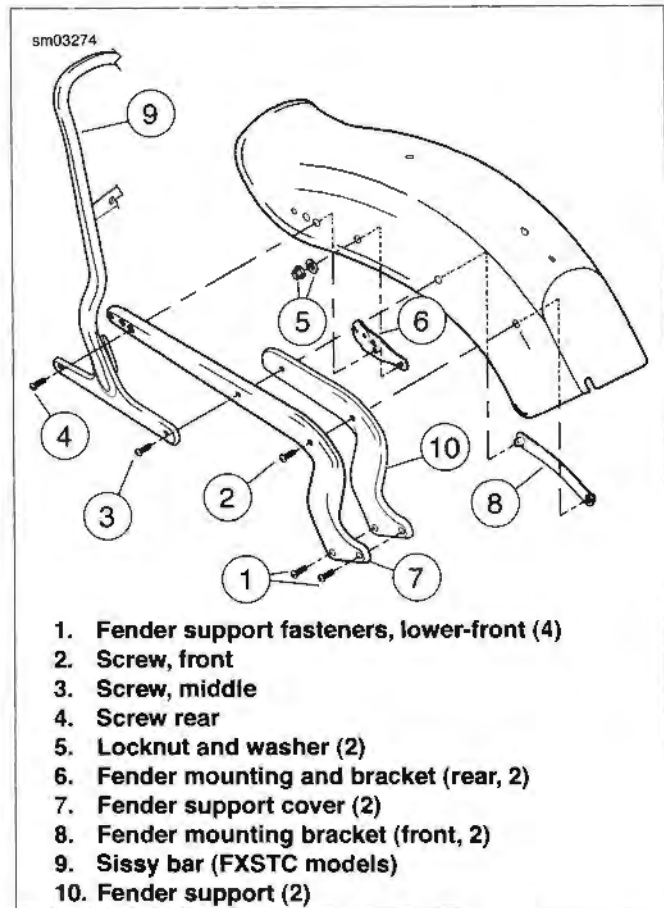

Figure 2-112. Rear Fender: FXST and FXSTC
7. See Figure 2-112. Loosen but do not remove fender support fasteners (1).
8. Remove front fender screw (2) from front fender mounting bracket (8).
9. Remove middle fender mounting screw (3) from front fender mounting bracket.
10. Remove rear fender mounting screw (4) from rear fender mounting bracket (6).
12. Remove fender support fasteners (1). Remove fender support cover (7) and fender support (10).
2. See Figure 2-112. Carefully place the fender into position.
5. Install fender supports hardware. Tighten fasteners (2, 3, 4) to 21-27 ft-lbs (28.5-36.6 Nm). Tighten fasteners (1) to an initial torque of 30-35 ft-lbs (40.7-47.5 Nm). Loosen fasteners (1) and final-tighten to 38-42 ft-lbs (51.5-56.9 Nm).